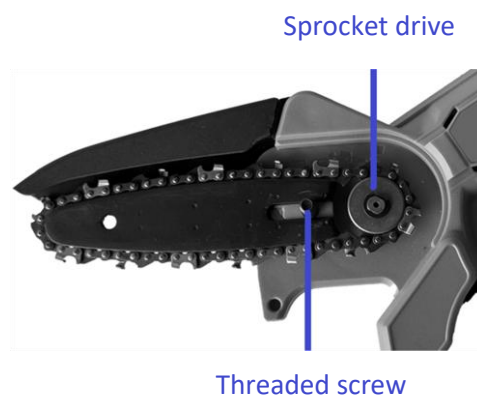

Fig. 2
- Turn the sprocket cover lock (2) anti-clockwise in order to remove the sprocket cover.
- Fit the guide bar (with the new saw chain) onto the threaded screw with the chain laying around the sprocket drive, so that guide bar can fit in the position as illustrated in Fig. 2.
- Turn the chain tensioner (10) to properly adjust the chain tension.